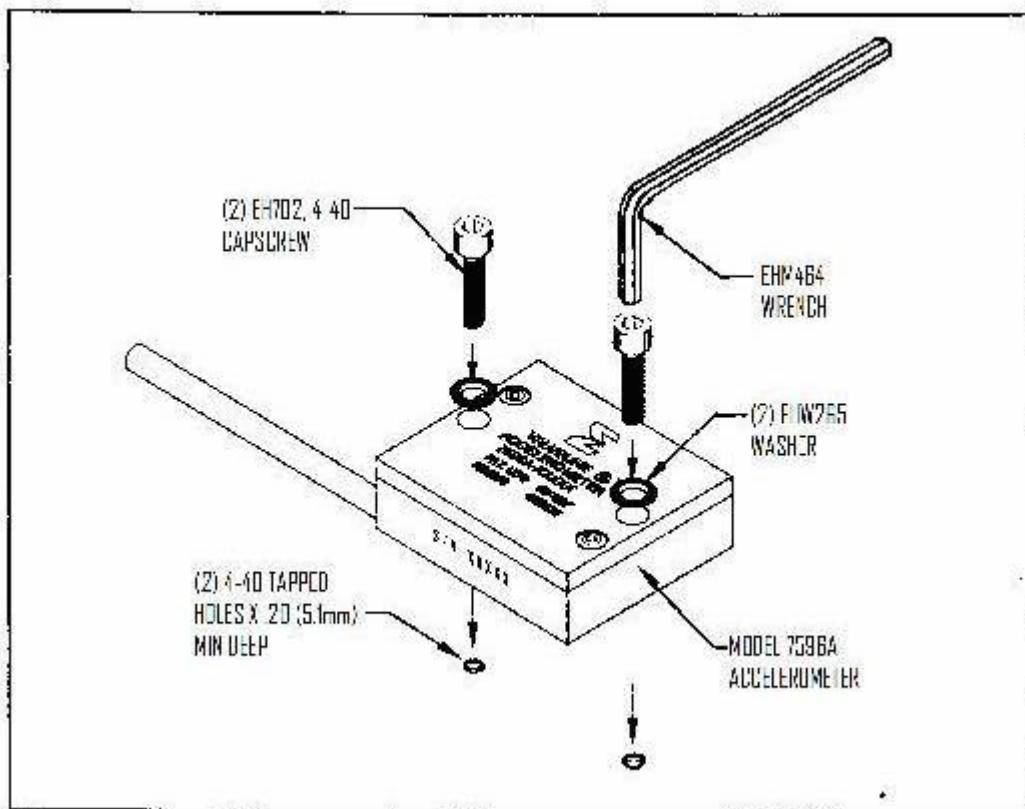

FIGURE 1- Installation of Model 7596A Valuline Accelerometer
All the materials used in the mounting of the Model 7596A Valuline accelerometer are supplied with the unit in the shipping container. These materials, as shown in Figure 1, include:
2. If possible, do not cement the unit to the mounting structure. Use the supplied mounting washers and screws, as shown in Figure 1. Metric size screw M3 may also be used. Note: Adhesive mounting may be used, if necessary. Adhesion of epoxies to the hard anodized case is excellent, but thermal mismatch to the mounting surface can degrade the joint. A compliant adhesive, such as Dow Corning 3145 RTV, is recommended. Use care to maintain flatness of the unit during curing to reduce cross talk errors.